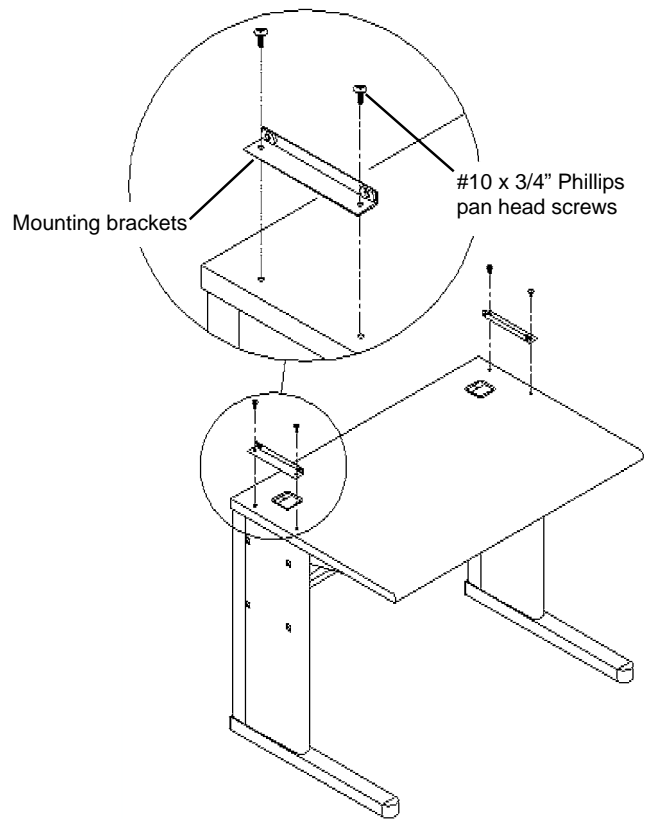

Figure 4
2. Install a **Mounting Bracket** at each corner of the worksurface with the #10 x 3/4" Phillips pan head screws provided. See **Figure 4**.